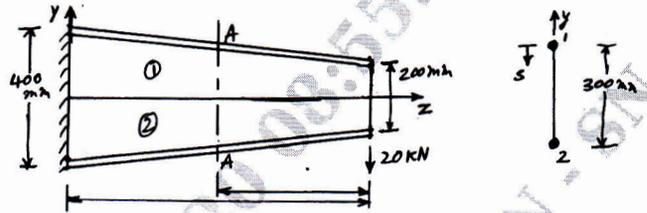

Fig.Q7(a)
- 7 a. Determine the shear flow distribution in the web of the tapered beam shown in Fig.Q7(a) at a section midway along its length. The web of the beam has a thickness of 2mm and is fully effective in resisting direct stress. Each flange area is 400 mm^2 .